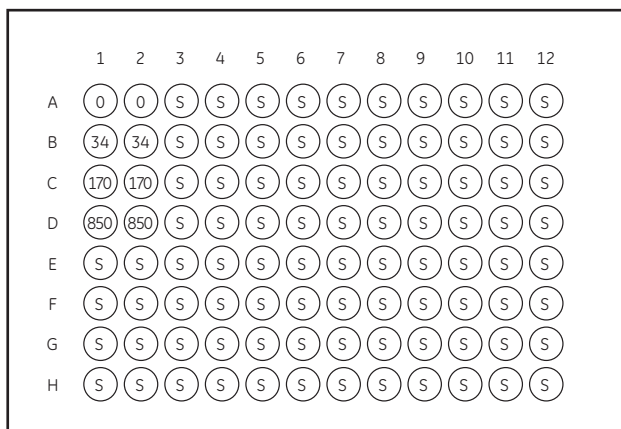

Figure 1. Recommended positioning of standard (0–850 pg/ml) and sample wells (S)
2. Set up the microplate with sufficient wells to enable the running of all standards and samples as required (see figure 1).